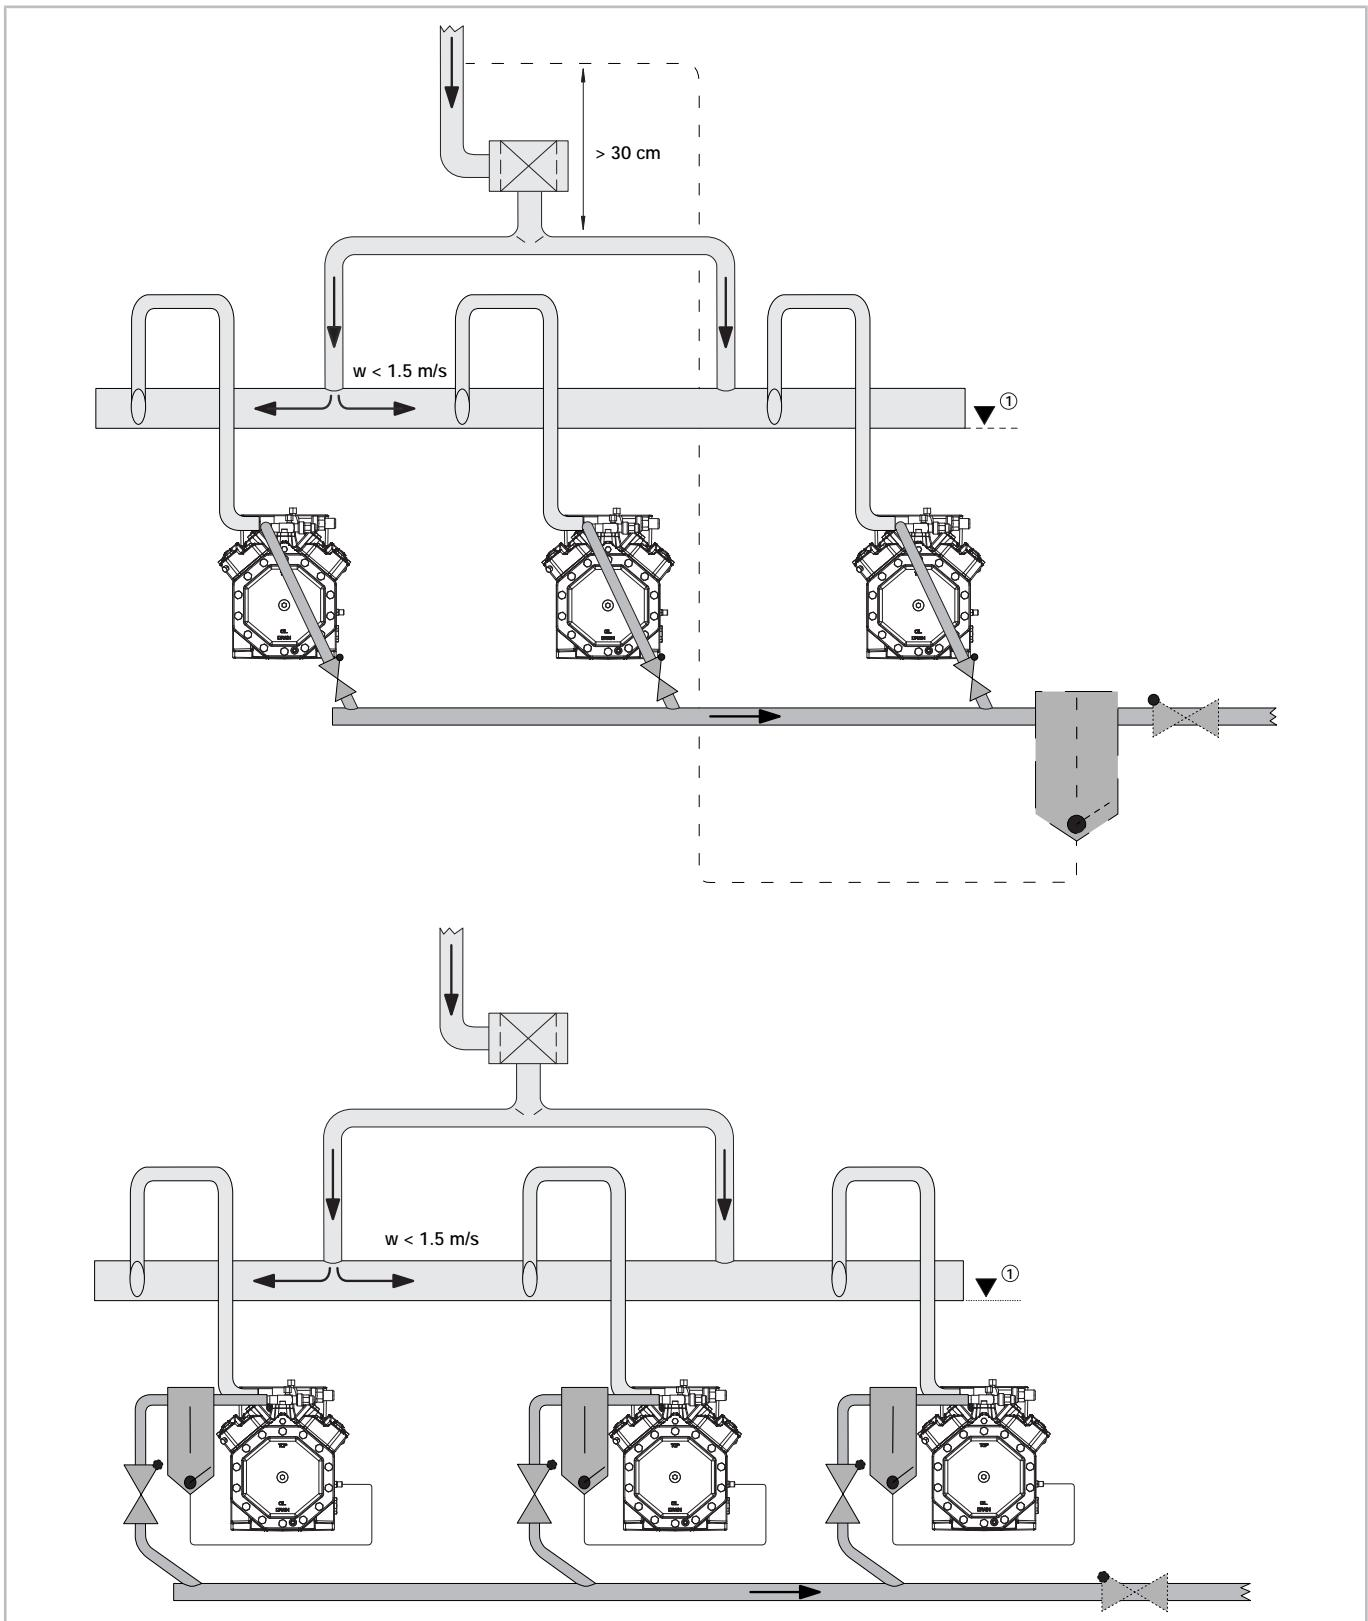

Fig. 8: Parallel compounding reciprocating compressor: Design of the pressure header
- Transverse connection with outlet on one side, avoid 90° bends and use e.g. 45° bends (*see figure 8, page 39*)
Check valves in the line sections to the header are required under the following conditions (*see figure 8, page 39*):